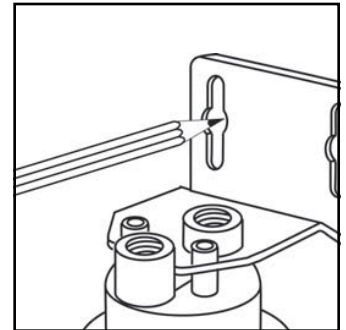

Figure 1
1. Position the filter by holding it against the right hand side of the cabinet wall underneath the sink. Allow at least 3" (7.6 cm) beneath the filter to install cartridge. Determine a desirable location for the filter installation and inlet connection. Attach the mounting bracket to appropriate mounting bosses on filter head with the self-tapping screws supplied. (Figure 1)